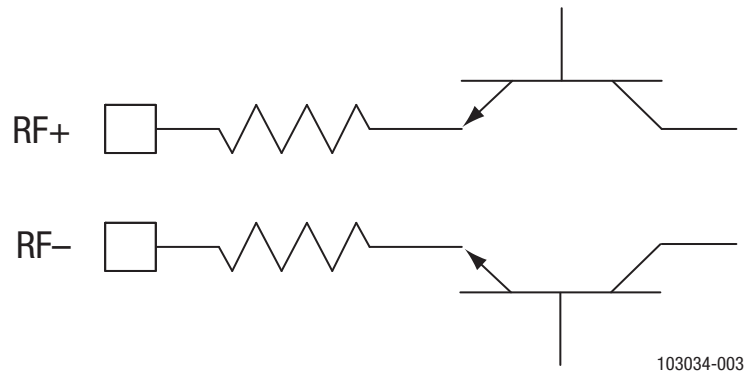
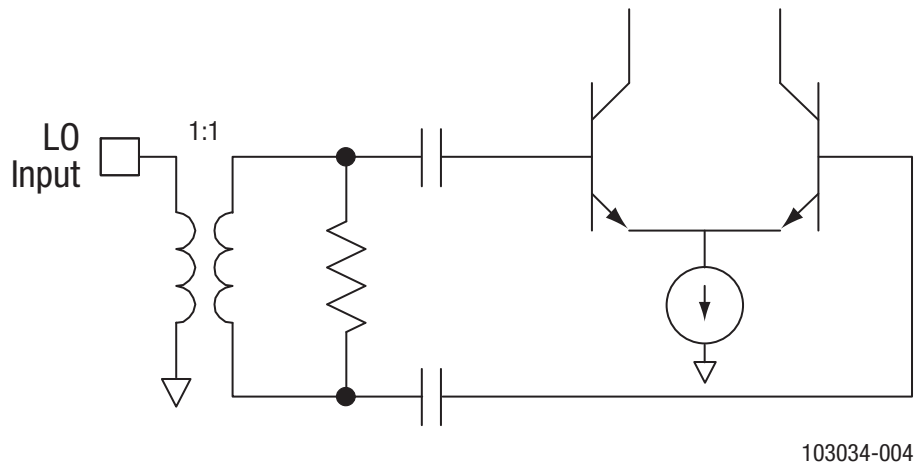

Figure 3. Equivalent Circuit for the RF input
Figure 4. Equivalent Circuit for the LO input
An equivalent circuit for the RF input of the SKY73009 is shown in Figure 3. The equivalent circuit for the Local Oscillator (LO) input is shown in Figure 4. An internal balun is used to convert the single-ended LO input into a differential signal before being buffered inside the device.